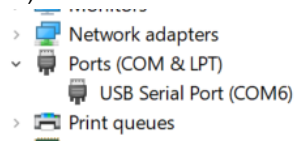

Figure 2: Device manager
5. Locate and note the COM port assigned in Windows Device Manager. The COM port number varies on each computer (Figure 2).